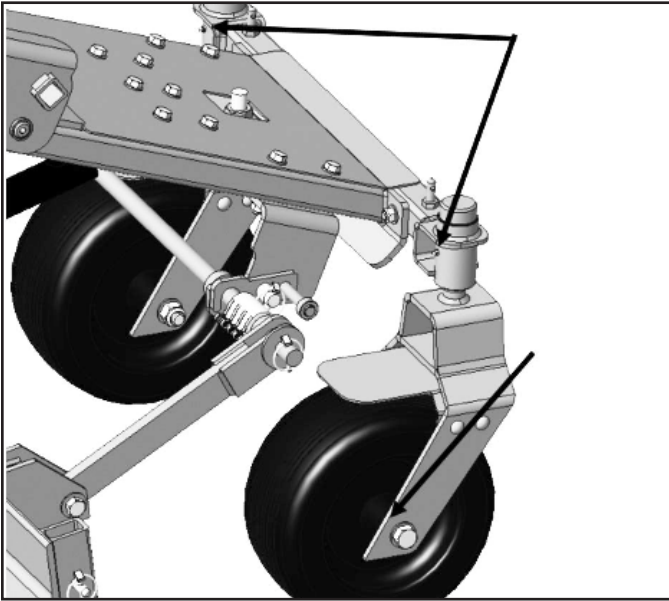

Figure 35: Front axle grease points
- Front Axle 2 places. See **Figure 35**
- Front wheels 2 places. See **Figure 35**